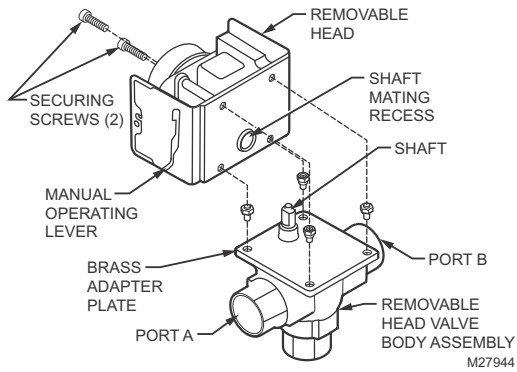

Fig. 2. Installing replacement heads.
1. Place manual operating lever on the Replacement Head in the 'MAN. OPEN' position. Fit the Head onto Valve Body, ensuring that the shaft seats correctly. (Fig. 2.)